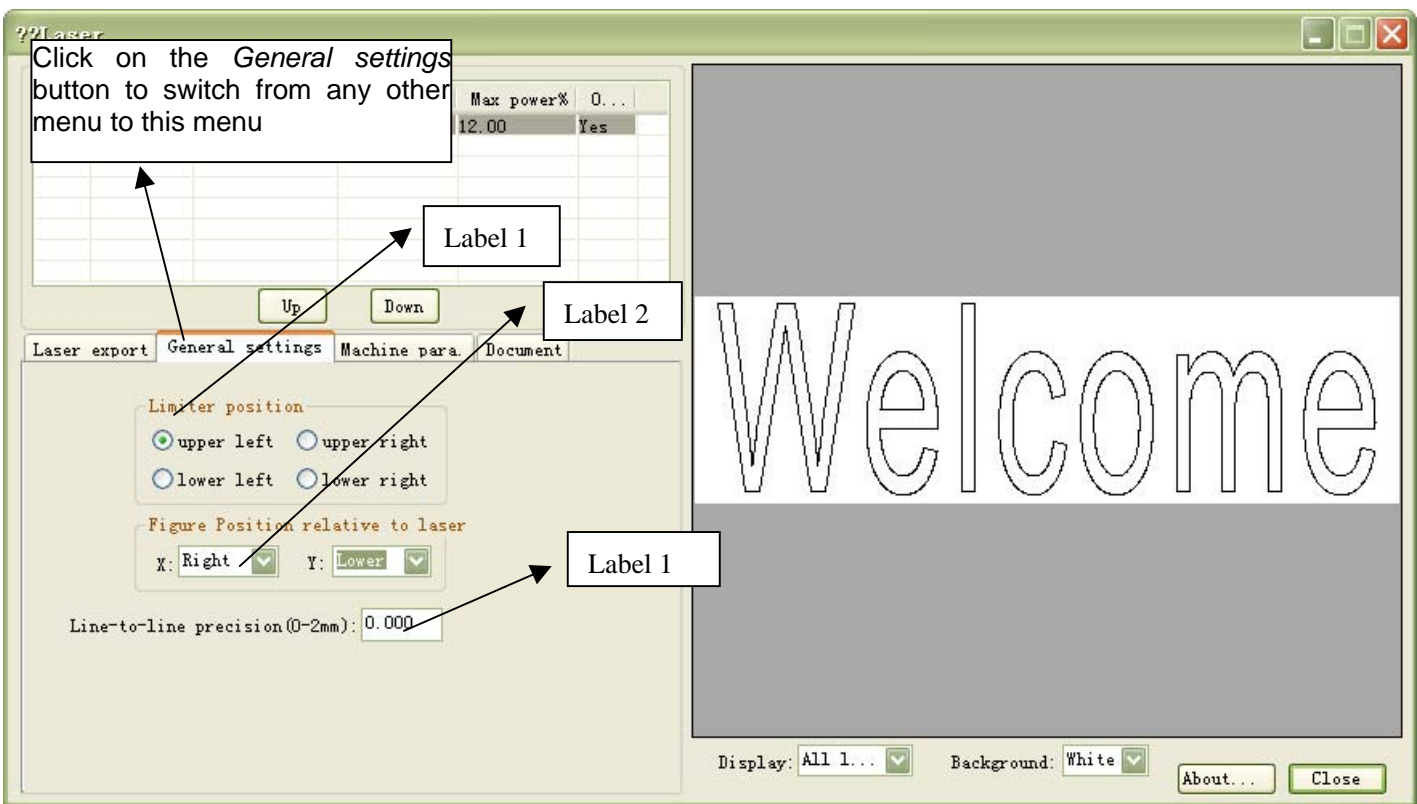

Figure 1-41
(1) Setting the *Limit position* (as shown in Label 1 in Figure 1-41)
(2) Setting the *Figure Position relative to laser* (as shown in Label 2 in Figure 1-41)
Note: You must ensure correct *limit position* settings (as shown in Label 1 in Figure 1-41).
Line-to-line precision (0-2mm) (as shown in Label 3 in Figure 1-41) settings